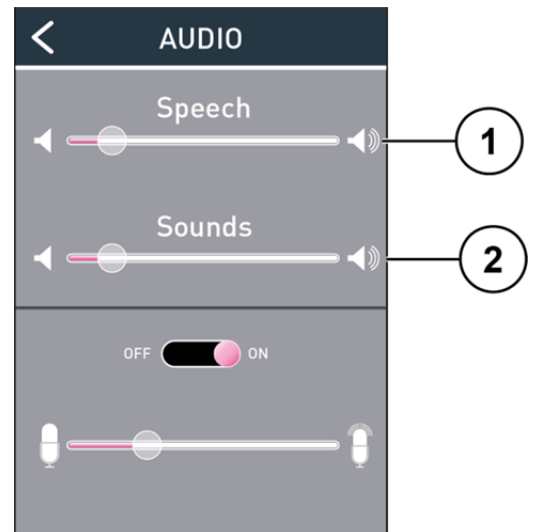

Fig. 15: Audio settings
- The volume of the voice and tone output can be adapted to the local conditions (Fig. 15).